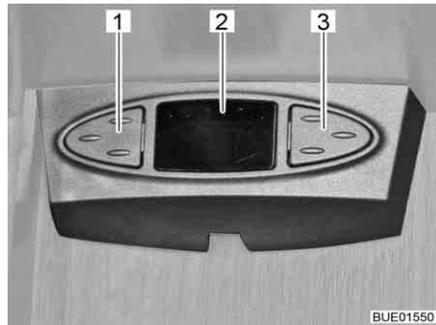

Fig. 28 Satellite mouse
Depending on the model, the satellite receiver is equipped with a satellite mouse. The satellite mouse's display (Fig. 28,2) shows the current channel. The two buttons can be used to operate the basic functions of the satellite unit (changing channel, switching on/off).
- Choosing the previous channel from the list: Press left button (Fig. 28,1).
- Choosing the next channel from the list: Press right button (Fig. 28,3).
- Switching between radio and TV: Press the buttons (Fig. 28,1 and Fig. 28,3) briefly at the same time.
- Switching the receiver on/off: Press and hold the buttons (Fig. 28,1 and Fig. 28,3) at the same time.